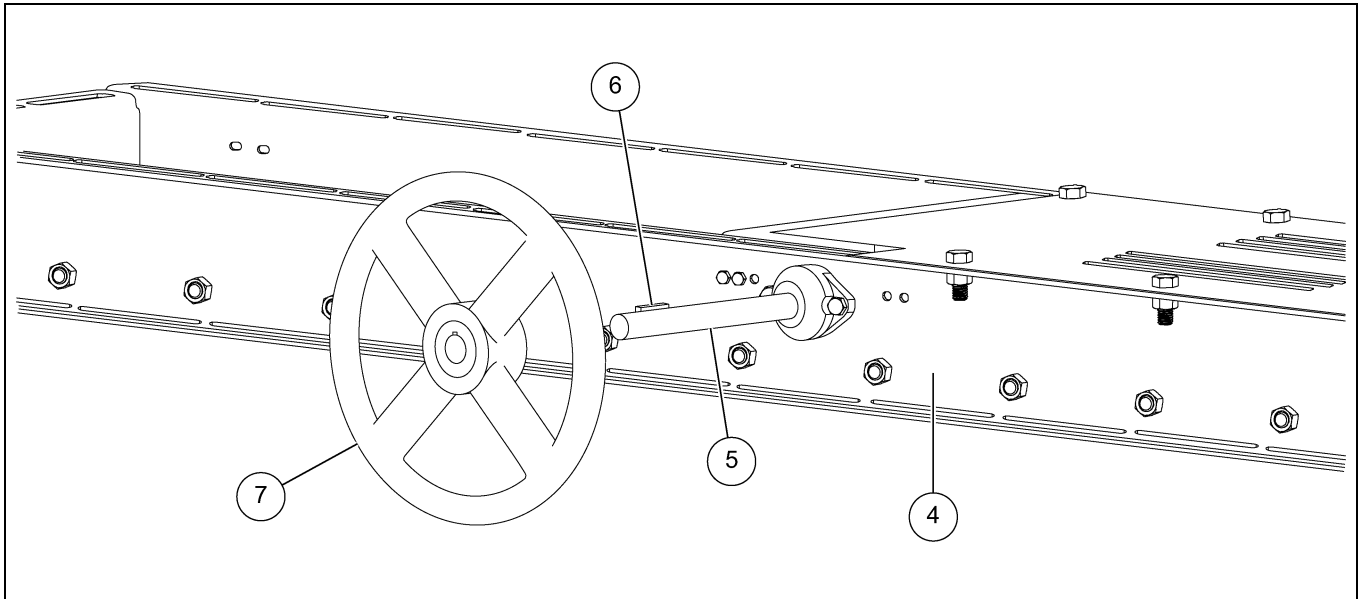

Figure 3C Manual Gate Installation
1. Install the specified wheel to the shaft by aligning the key (6) and key way, then tighten the set screw. This gate can be operated by a chain, cable or hand wheel (7). (See Figure 3C.)